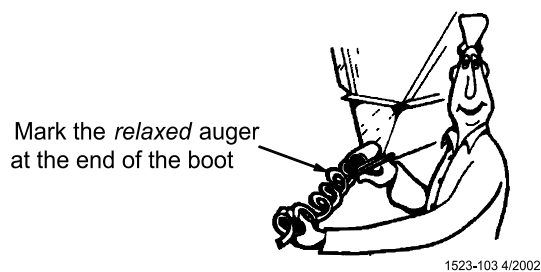

Figure 38. Wiring the Motor
10. Pull the auger at the boot end until it begins stretching. Then let it relax. In the relaxed position, mark the auger at the end of the boot. See Figure 38.